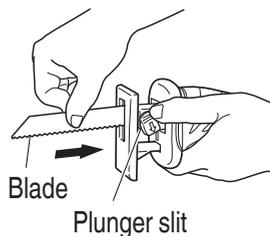
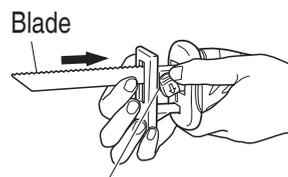

Fig. 7
Fig. 8
- (3) Insert the saw blade all the way into the small slit of the plunger tip with the lever pushing. You can mount this blade either in the upward or downward direction (Fig. 7, Fig. 8).